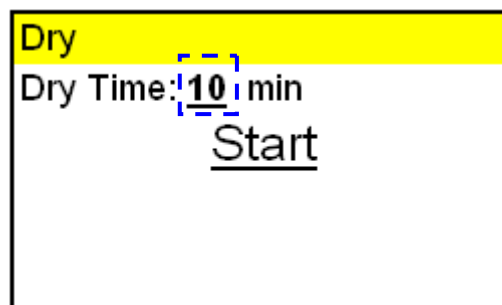

Figure 64
- D. Press  button to enter the dry time mode, and press  or  button to change the dry time, and then press  button to confirm Dry time, as shown in Figure 64.